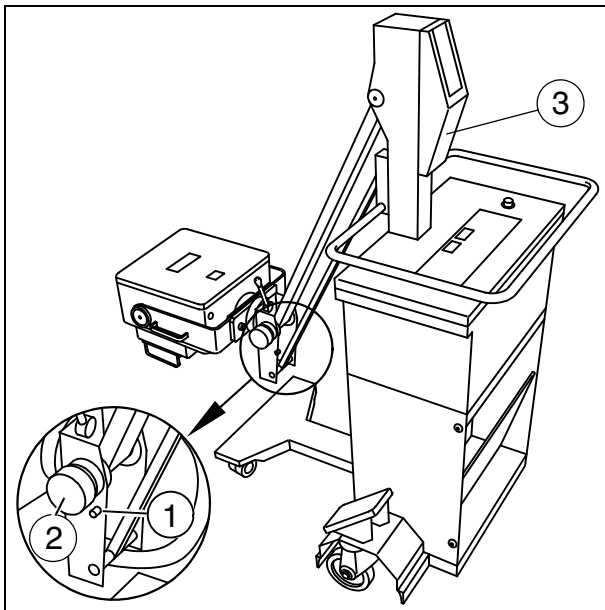

Fig. 7
- Unlock the support arm (1/Fig. 7) and release the turning knob (2/Fig. 7).
- Take the cover (3/Fig. 7) off the stand.
- Completely release the additional brake on the support arm (2/Fig. 7).